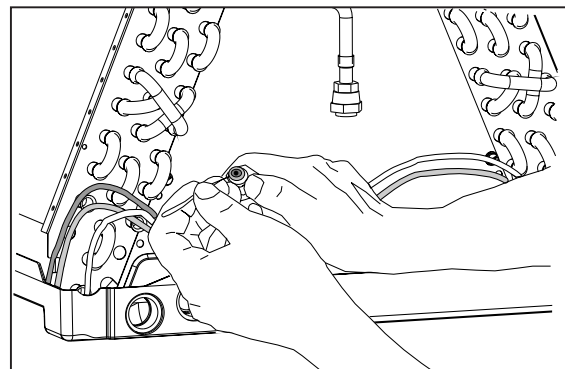

Figure 7. Removal of Orifice
3. Insert a light-gauge wire hook between the distributor body and the restrictor orifice to lift the orifice out of the body (See Figure 7). Carefully remove the restrictor orifice being careful not to scratch either part.